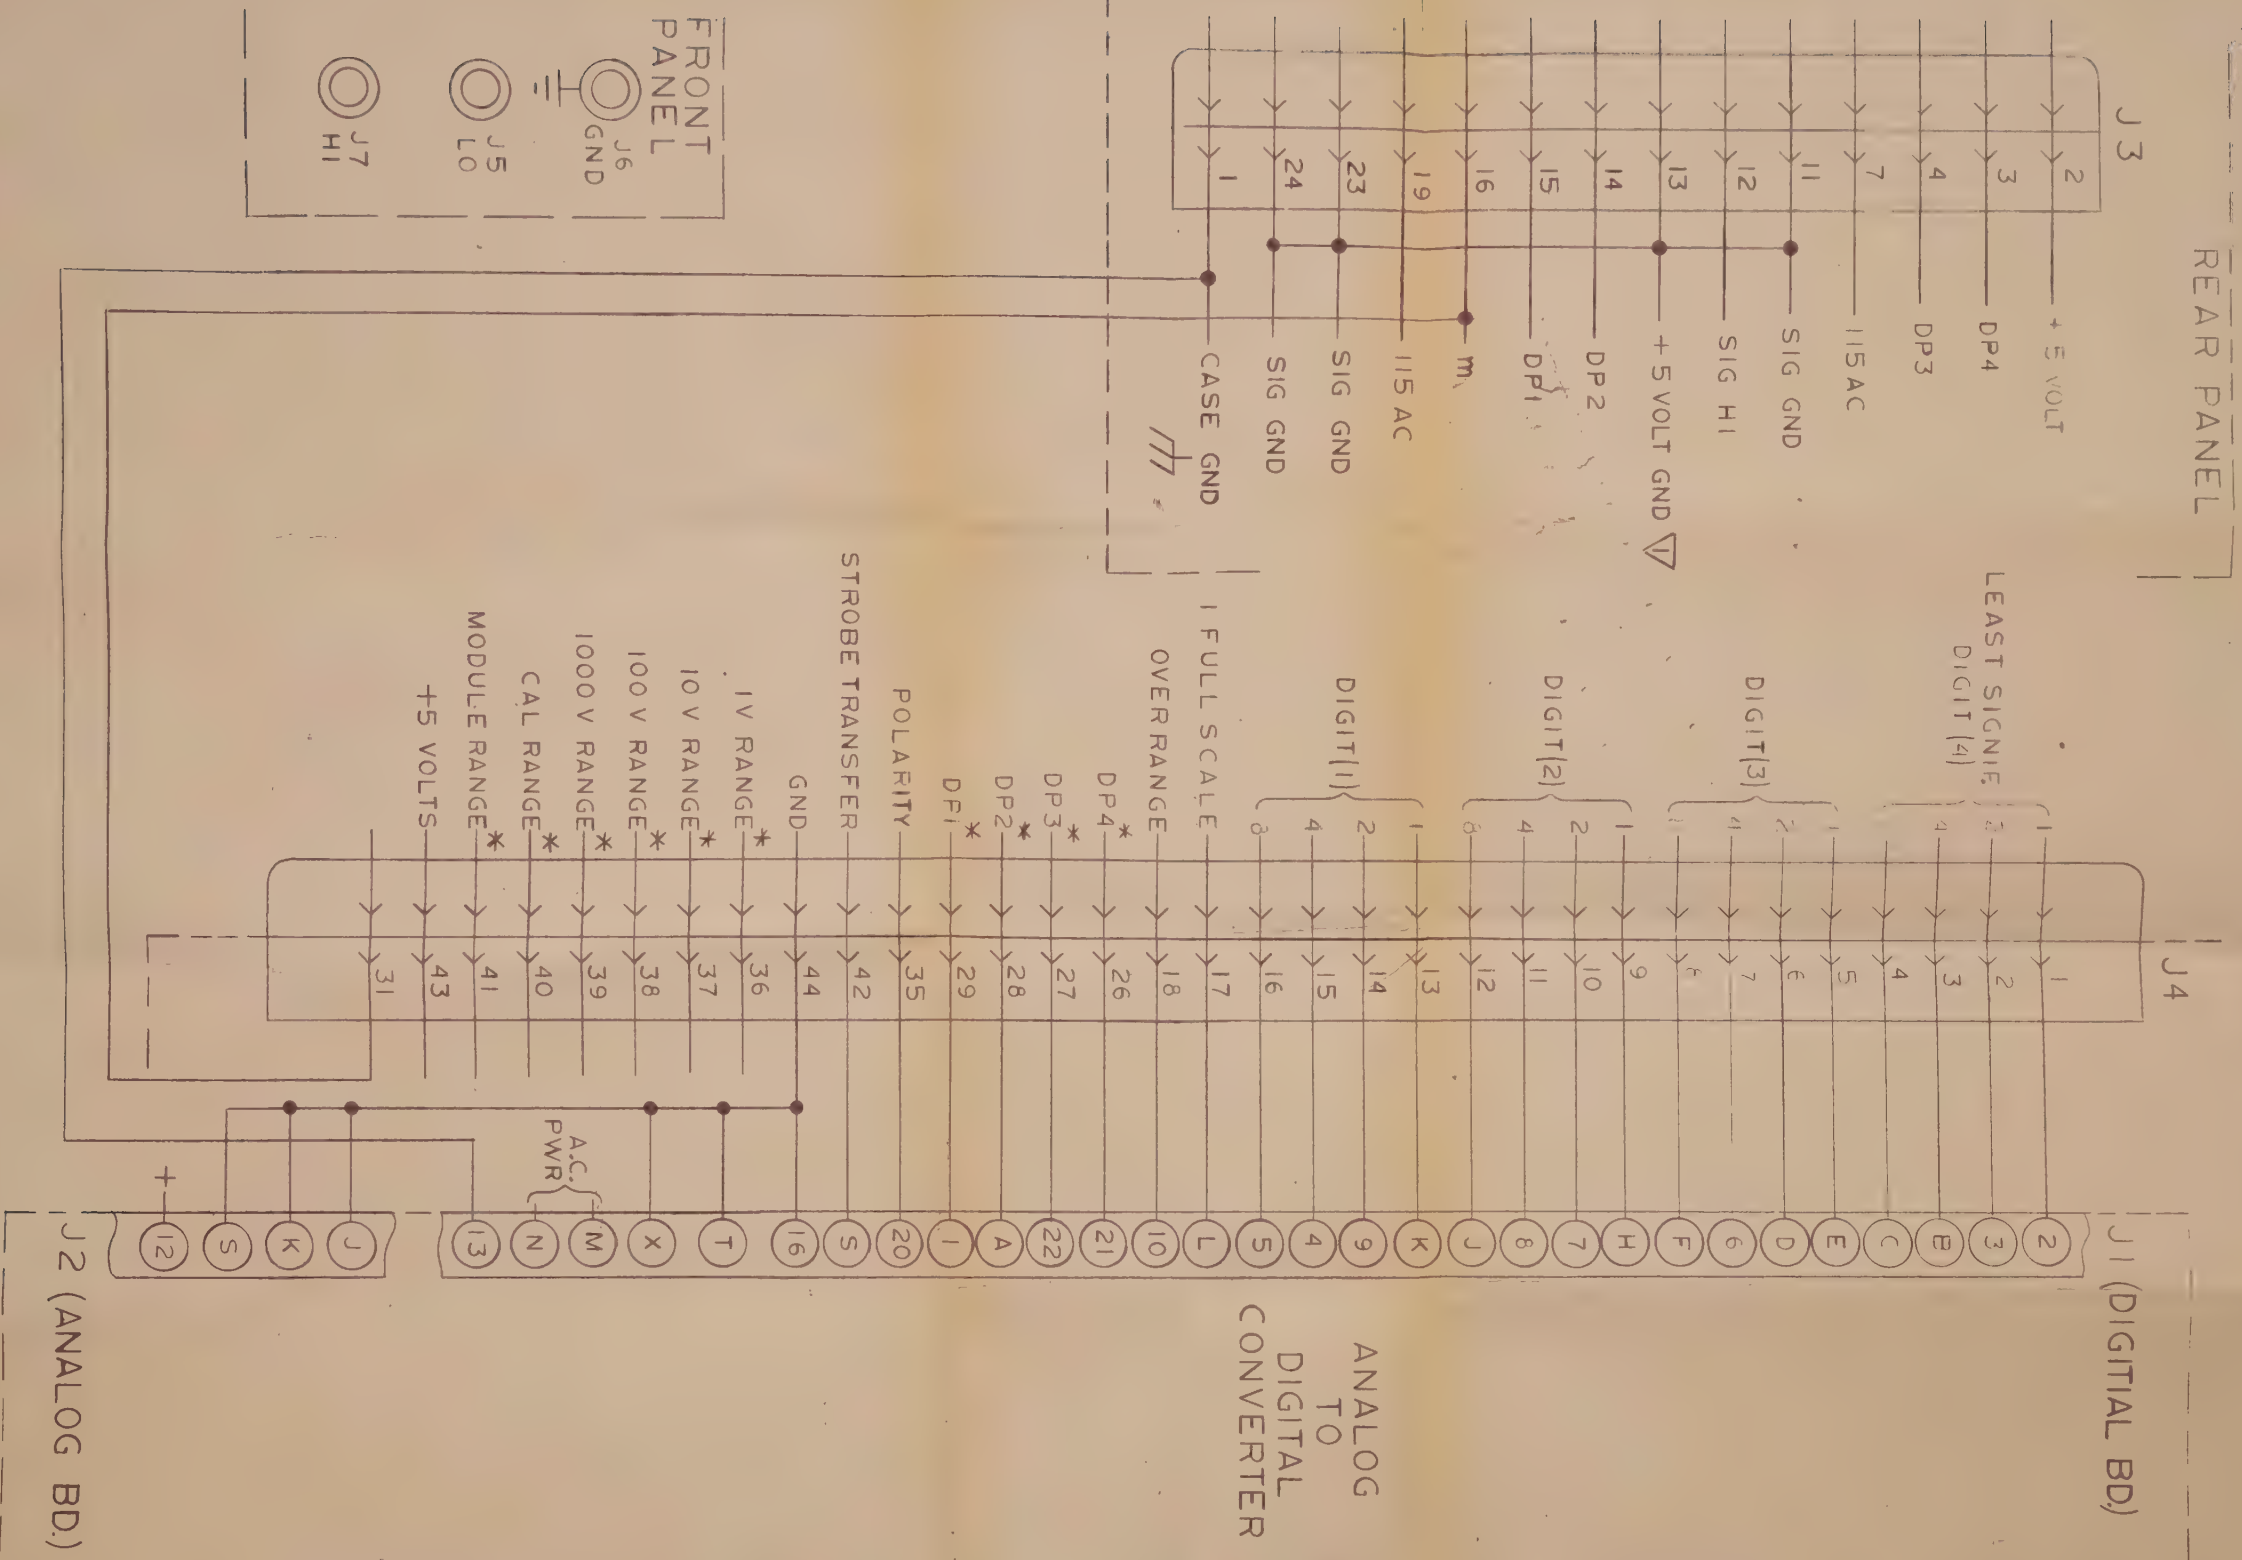

Figure 5-2. Model 3600 DC 100mV Power Supplies and 100mV
- Figure 5-2. Model 3600 DC DVM, Power Supplies and Option